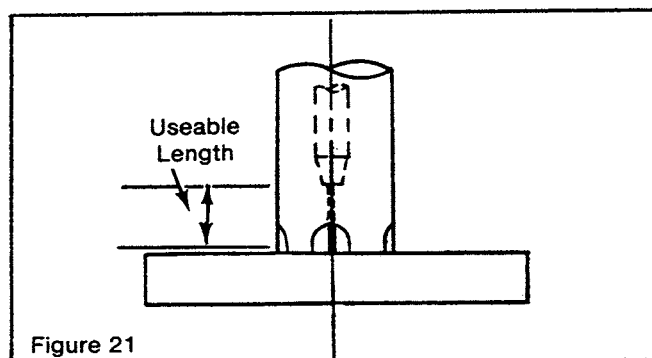

Figure 21
6. Extend or cut the wire so that it is flush or within the end of the nozzle. See Figure 21